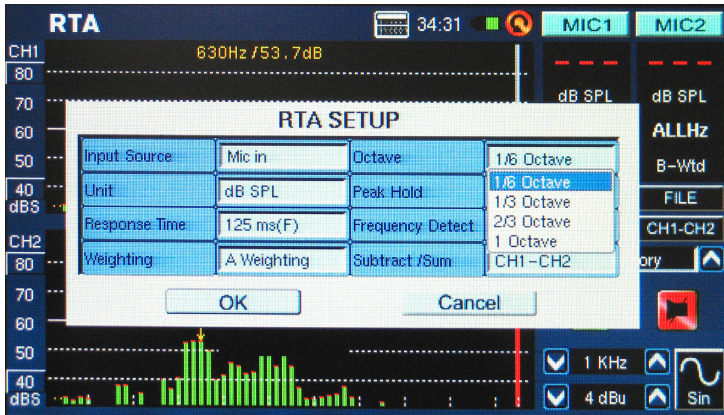

figure 19
2. Select the 'octave' settings you wish to use for your calculations (figure 19). Users can select from 1 octave resolution (for a total of 10 bands on the RTA), 2/3 octave resolution (for a total of 15 bands), 1/3 octave resolution (for a total of 31 bands), or 1/6 octave resolution (for a total of 61 bands).